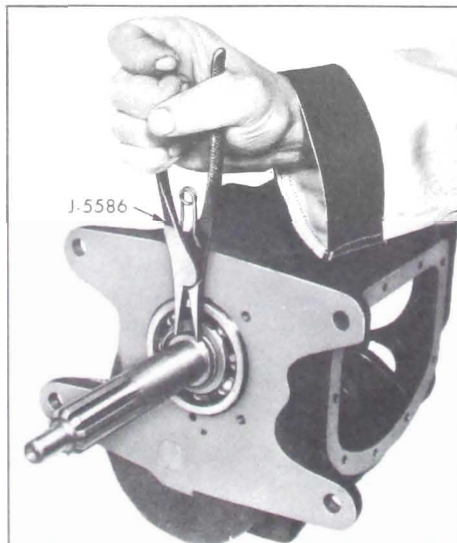

Figure 4-22—Removing Main Drive Gear Snap Ring
13. Remove the main drive gear snap ring (see Figure 4-22), and remove spacer washer.